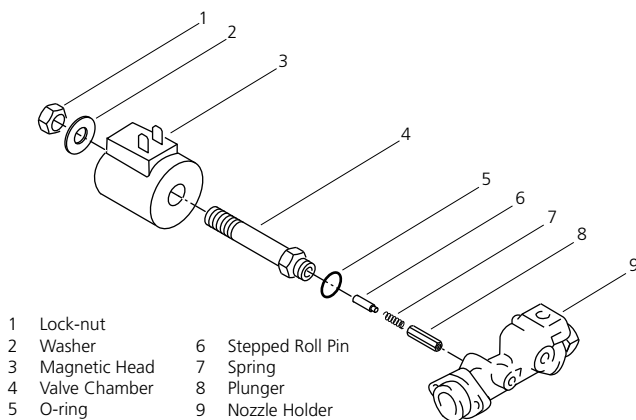

Figure 40: Fuel Valve and Solenoid Assembly
6. Unscrew the lock-nut (item 1, Fig. 40) securing the solenoid to the valve chamber (4) and slide magnetic head (3) back.
7. Unscrew valve chamber (4) from nozzle holder (9).
1. Unscrew lock-nut (item 1, Fig. 40) from new valve assembly.
2. Make sure new O-ring seal (5) is in place on valve chamber (4) and items 6, 7 and 8 are present and correctly oriented inside the valve chamber.
4. Slide the magnetic head (3) into place making sure the boss registers in the end plate recess.
5. Secure with the lock-nut (1) and washer (2).